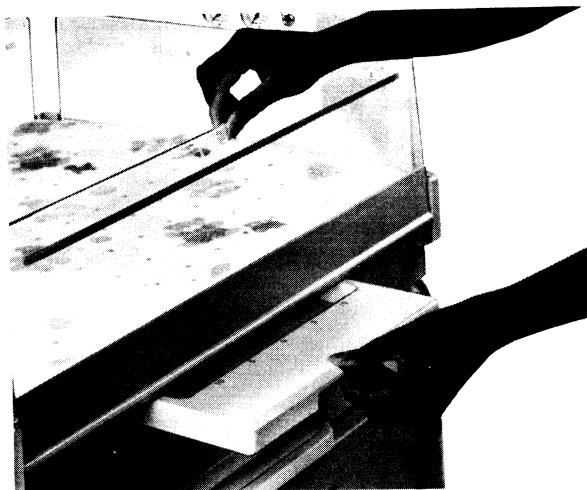

FIGURE 2.8 CHECKING THE X-RAY TRAY
6. **CHECK THE OPERATION OF THE X-RAY CASSETTE TRAY (ACCESSORY)** in Figure 2.8 by grasping the middle of a Side Panel and pulling the X-Ray Cassette Tray out from under the Bassinet. Replace the X-Ray Cassette Tray by reversing the procedure.